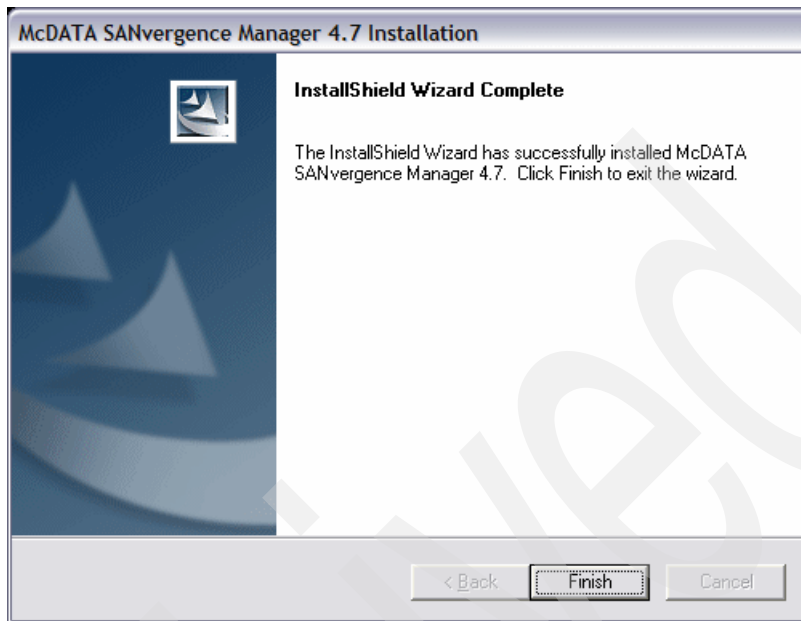

Figure 17-16 SANvergence Manager code successfully installed
7. After the code installation finishes, as shown in Figure 17-16, click **Finish**.